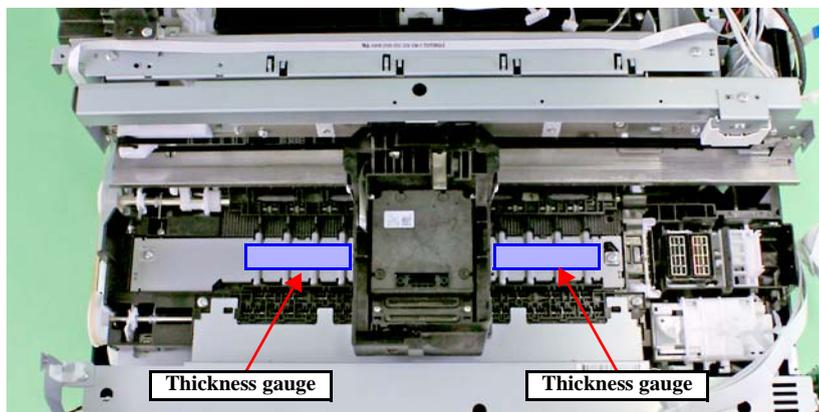

Figure 5-9. Position of the Thickness Gauge
6. Place the thickness gauges (1.7 mm) on the positions shown in Figure 5-9.
3. Place the thickness gauges (1.5 mm) on the positions shown in Figure 5-9 \(p 94\).